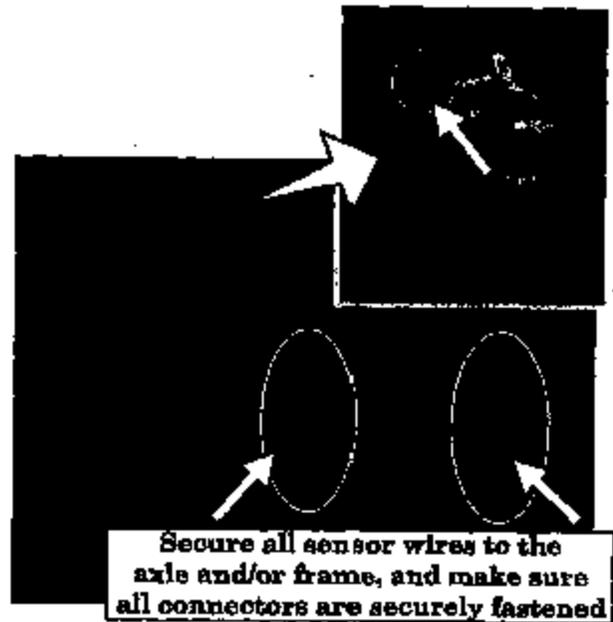

Figure 4: Rear Wheel ABS Speed Sensor Wire
- On vehicles with limited clearance between the rotating brake drum and the sensor wires, secure the sensor wires to the axle end to eliminate the free motion of the sensor wires. (Figure 4)